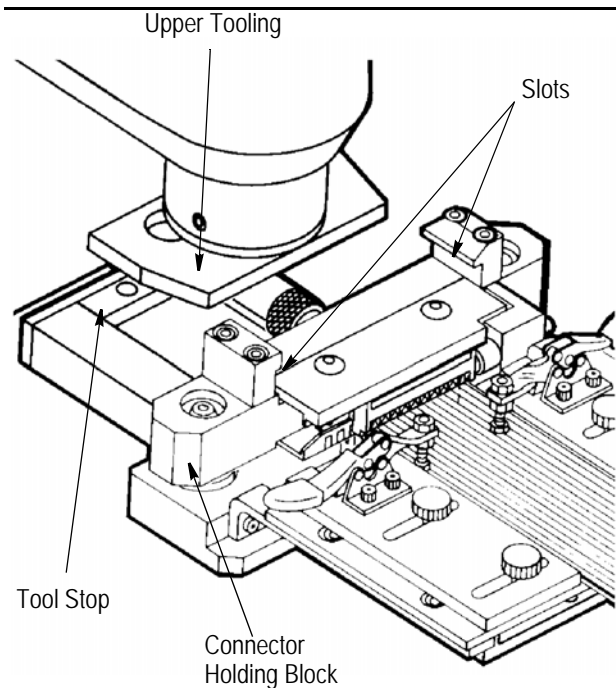

Figure 5
4. Slide lower tooling toward frame until it butts against tool stop in base plate. Upper tooling should enter slots in connector holding block. See Figure 5.